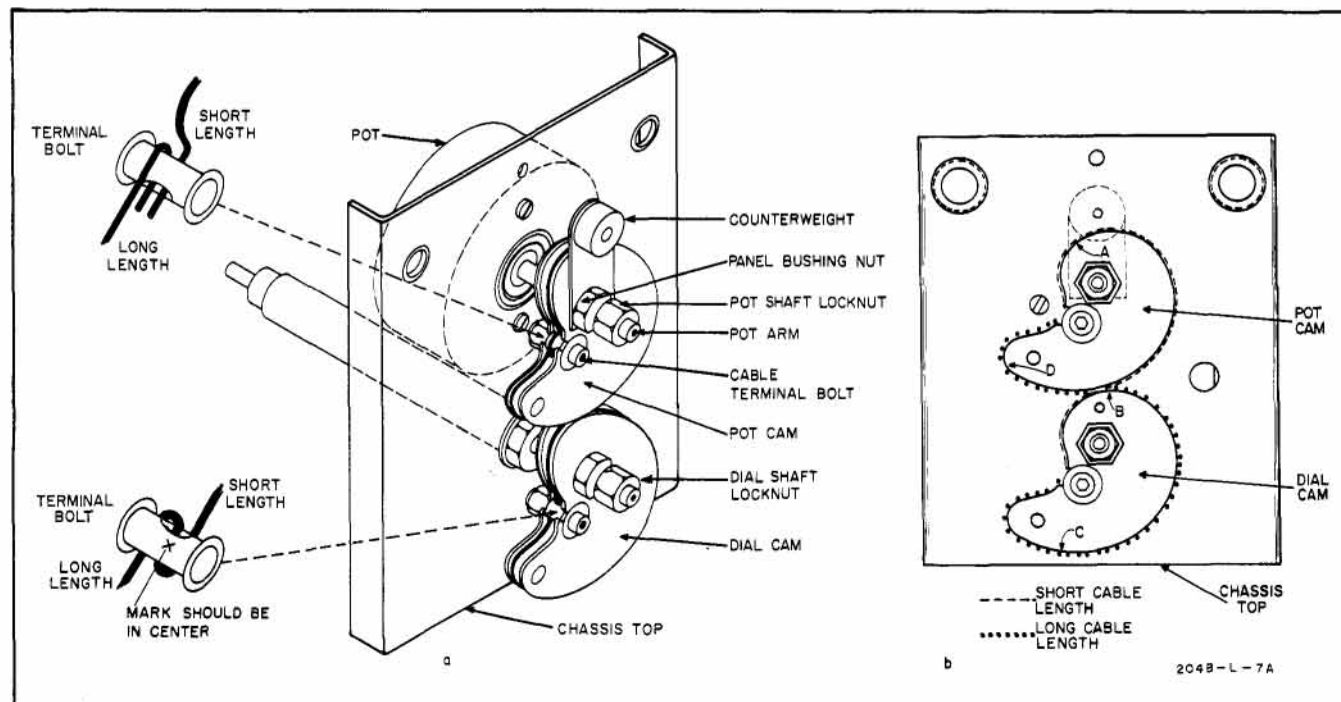

Figure 5-5. Cams and Cable Relationship
holding the power supply and circuit board, then swing the two assemblies to the side. Use figure 5-5 as a guide, and proceed as follows:
5-35. To replace the frequency potentiometer (pot), R10A and B, it is necessary to remove the pot cam. For easier access to the cams, remove the screws holding the power supply and circuit board, then swing the two assemblies to the side. Use figure 5-5 as a guide, and proceed as follows:
a. Position cams as shown in figure 5-5a. Some instruments have aluminum cams which have the counterweight shown in figure 5-5. Other instruments
- i. Install counterweight and tighten panel bushing nut. Counterweight is keyed and should be positioned as shown in figure 5-5. (omit if no counterweight).